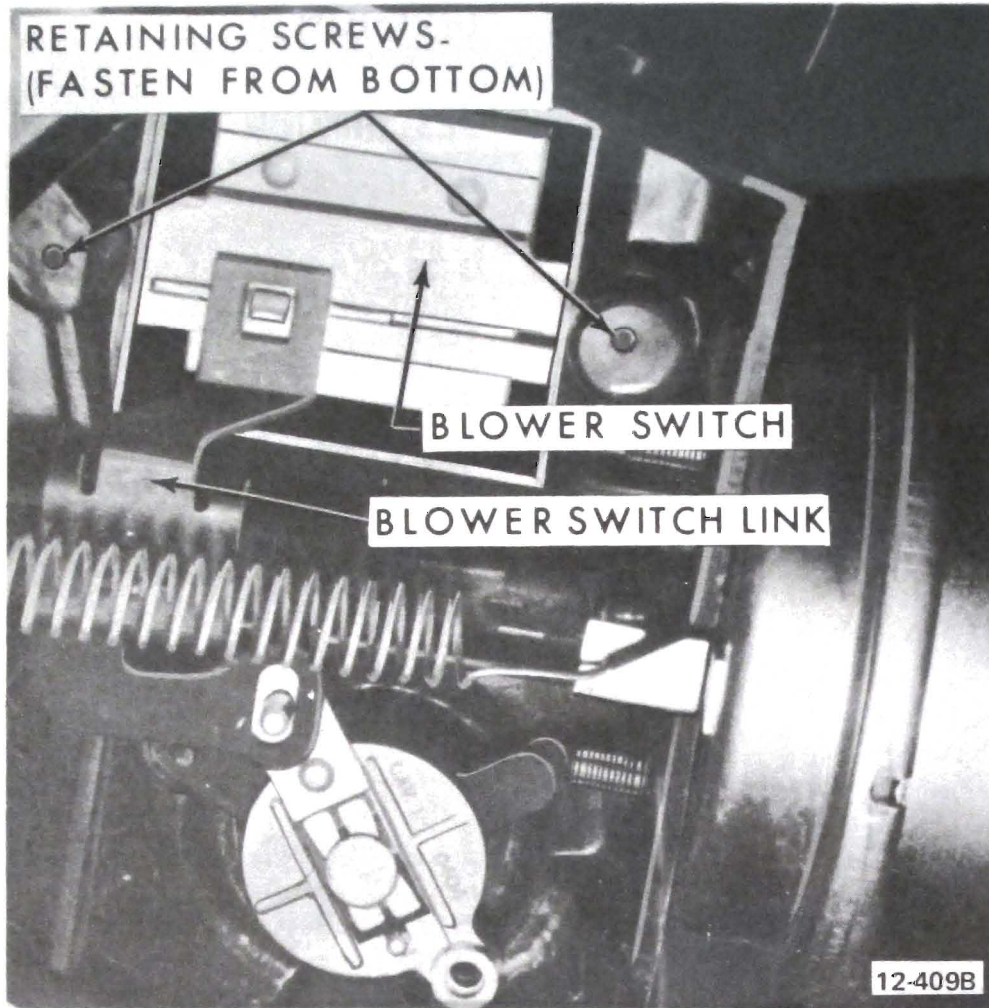

Figure 13-210 - 45-46-48000 Series Adjust Blower Switch
6. Position blower switch as necessary to obtain high blower in both maximum heater (12.5 volts) and maximum A/C (13.5 volts). See Figure 13-210 for 45-46-48000 Series. See Figure 13-211 for 49000 Series.